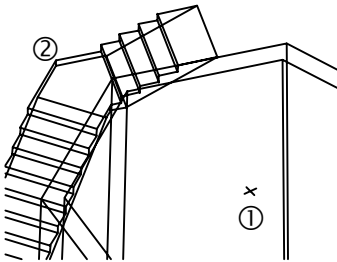

Figure 13
- Set the *Current Layer* to *Construction* and, using Figure 13 as a guide, construct a 7-sided polygon centred at the origin 1 with an inscribed radius set by using the *.xy* point filter with |ENDpoint| and picking the outer-most point 2 on the top-most landing of the stair (and then picking any point on the XY plane of the UCS to specify the Z-value).